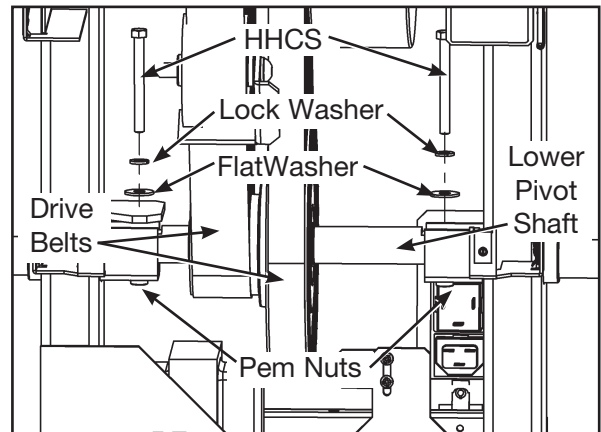

Figure 8
- A.** Using a 7/16" socket wrench with a 3" extension, remove the two HHCS, two lock washers and two flat washers from the lower pivot shaft. See Figure 8.
- C.** Strike the HHCS head with a metal hammer to brake the pem nut free from the bracket and discard. See Figure 8.